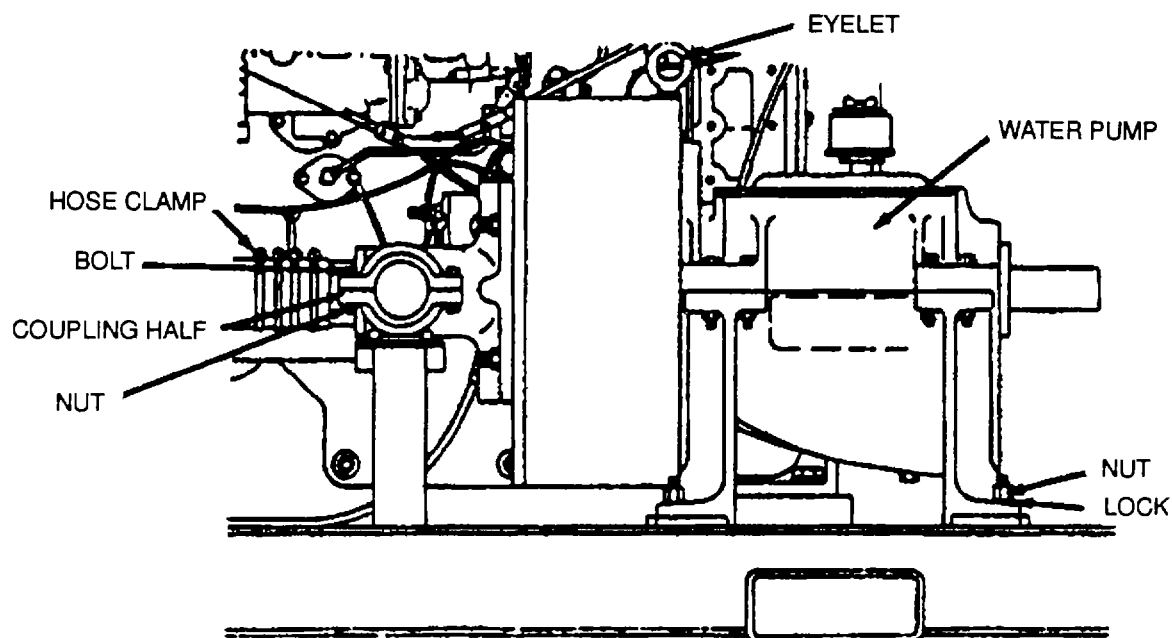

Figure 4-9. HP Pump Pedestal Bearing
- a. Place container under drain plug to catch used oil (Figure 4-9).